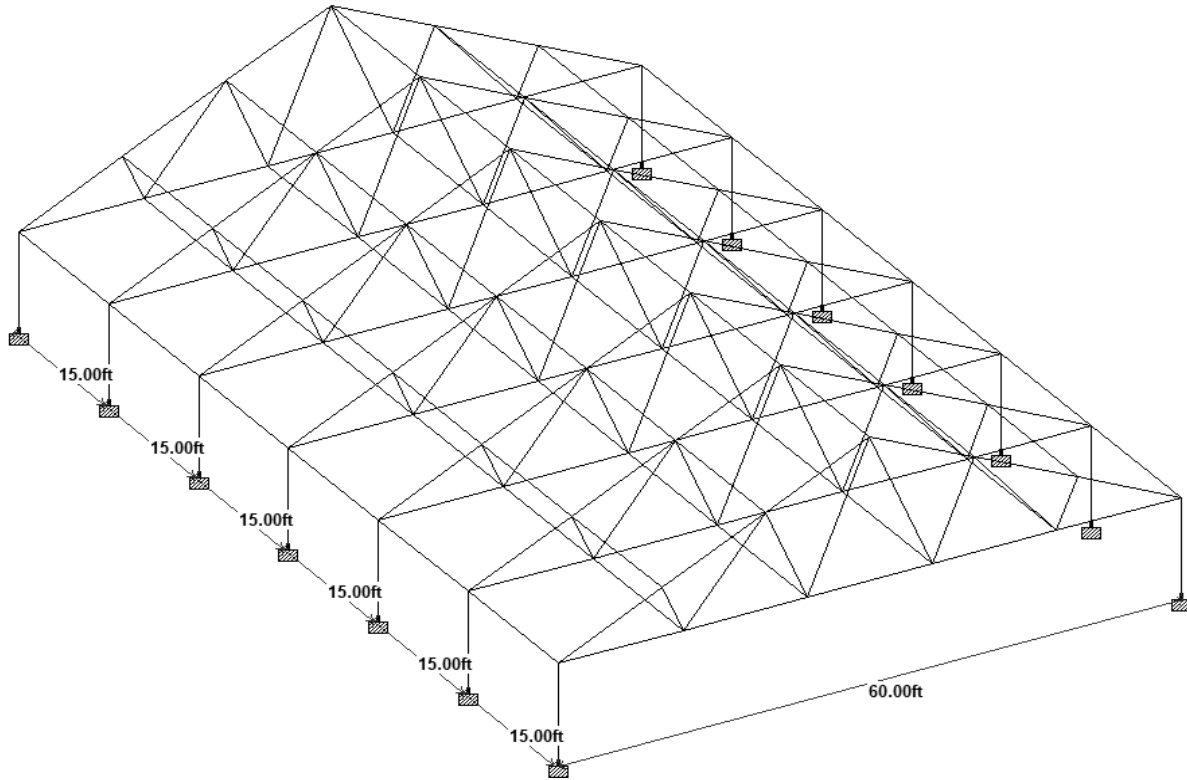

Fig: 4.8
2.3 Translational Repeat: Now Select the whole structure (in View window) by using beam cursor → Translational Repeat → Global Direction = Z → No. of Steps = 6 → Spacing = 15 → Click on Link Steps → OK and then delete extra beams (Fig: 4.8)